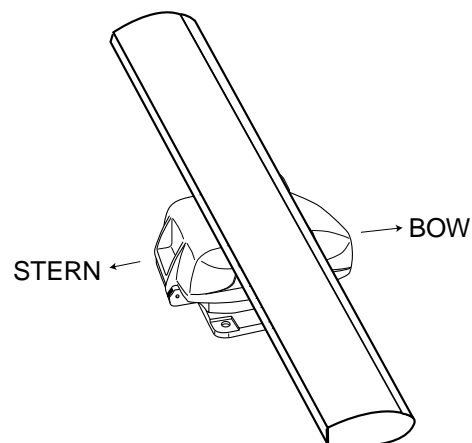

Figure 6 Scanner unit
2. Lay the scanner unit on the mounting platform, orienting it as shown in Figure 6.